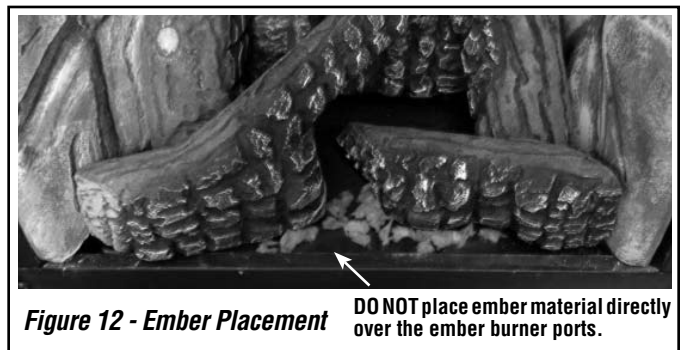

Figure 12 - Ember Placement DO NOT place ember material directly over the ember burner ports.
6. Ember Placement - Separate the Embers (rockwool) into pieces about the size of a quarter (see Figure 6). Keep the pieces fluffed up, not matted. Distribute these pieces over the surface of the burner, as shown in Figure 12. Do not use more than is necessary. **Ensure that the main burner ports remain uncovered by the ember material.**